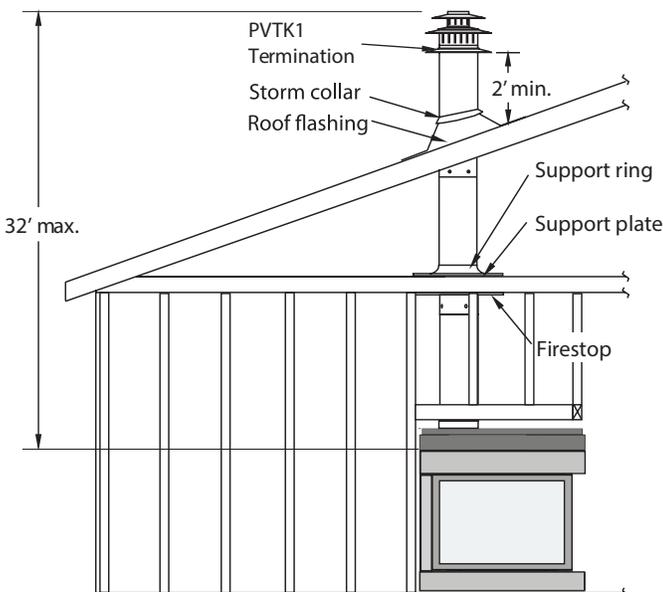

Figure 9. Top vent, Roof mounted termination with no offset in vent run.
- The Vertical termination must be a minimum 2' higher than where the termination exits the roofing materials, (asphalt shingles, cedar shakes, etc). This distance should be measured from the high side of the roof slope where the flue flashing intersects the roofing materials. (see *Figures 9 - 9c*).